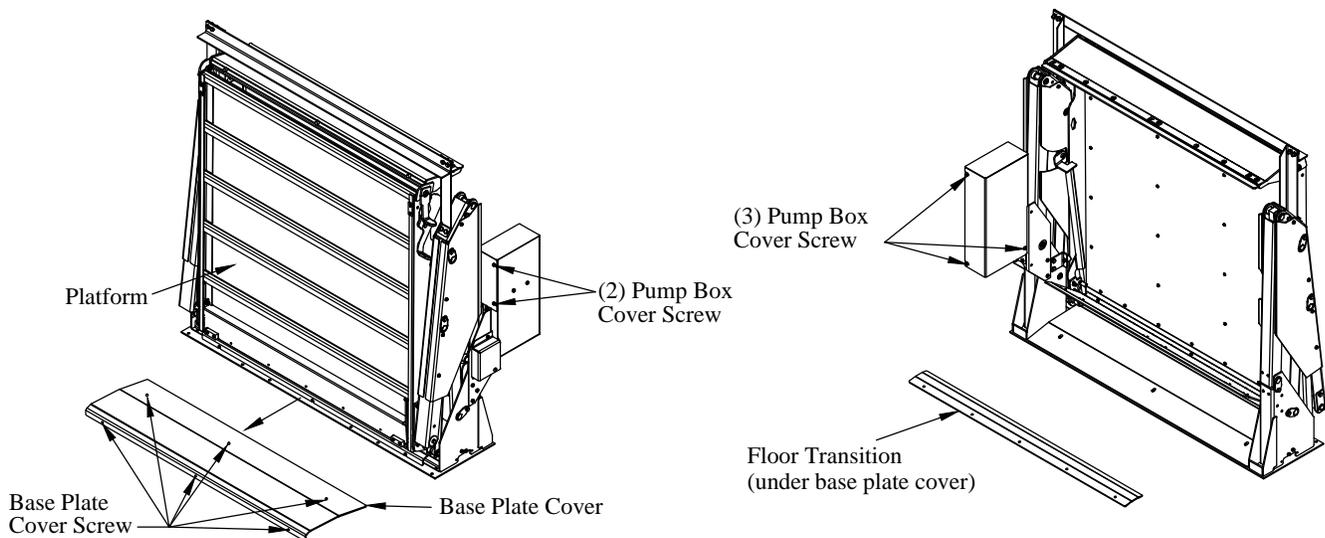

Figure 3: Base plate cover and pump box.
3. **Remove** the pump box cover by removing five (5) screws (Figure 3).
6. **Remove** and **Save** the six (6) screws fastening the base plate cover to the base plate (Figure 3).
7. **Remove** and **Save** base plate cover (Figure 3).